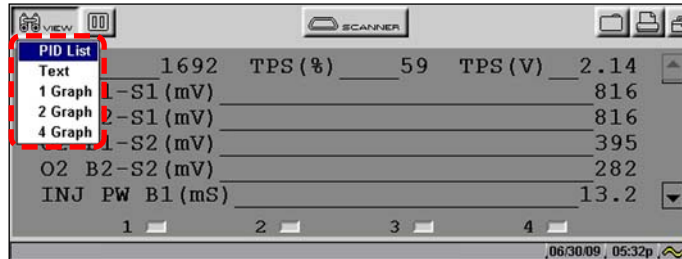

Figure 5-12 Sample View menu
1. Select the **View** button to open the drop-down menu (Figure 5-12).